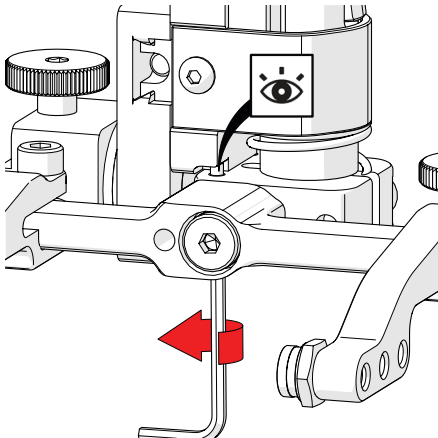

Fig. 126 - Raise opposite 90° stop post
- 8.** Raise the stop post on the opposite side until the side of the post clearly contacts the 90° stop point on the probe holder's base (*Fig. 126*).